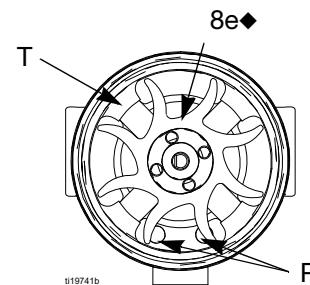

FIG. 30. Fan Orientation
12. Hold the coil assembly (8a) on a workbench with the fan end facing up. Press the fan (8e) onto the long end of the shaft (S). The fan blades must be oriented as shown in FIGURE 30.
13. Carefully press the coil assembly (8a) into the front of the housing (8d) while aligning the pin on the coil with the slot in the housing. The 3-wire connector (PC) must be positioned below the wider notch (W) of the housing tabs.
14. Rotate the fan (8e) so its blades clear the four bearing tabs (T) at the back of the housing. Ensure that the blades of the bottom bearing (8b1) align with the tabs.